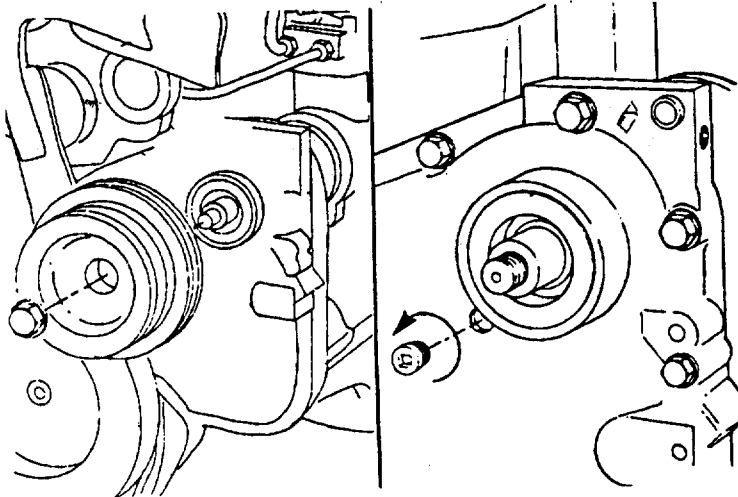

FIGURE 3-32. *Inspection Hole Plug.*
- d. Remove the inspection hole pipe plug (Figure 3-32) in the gear cover.
- f. Apply anti-seize thread compound to the 3/8-inch inspection hole pipe plug (Figure 3-32).